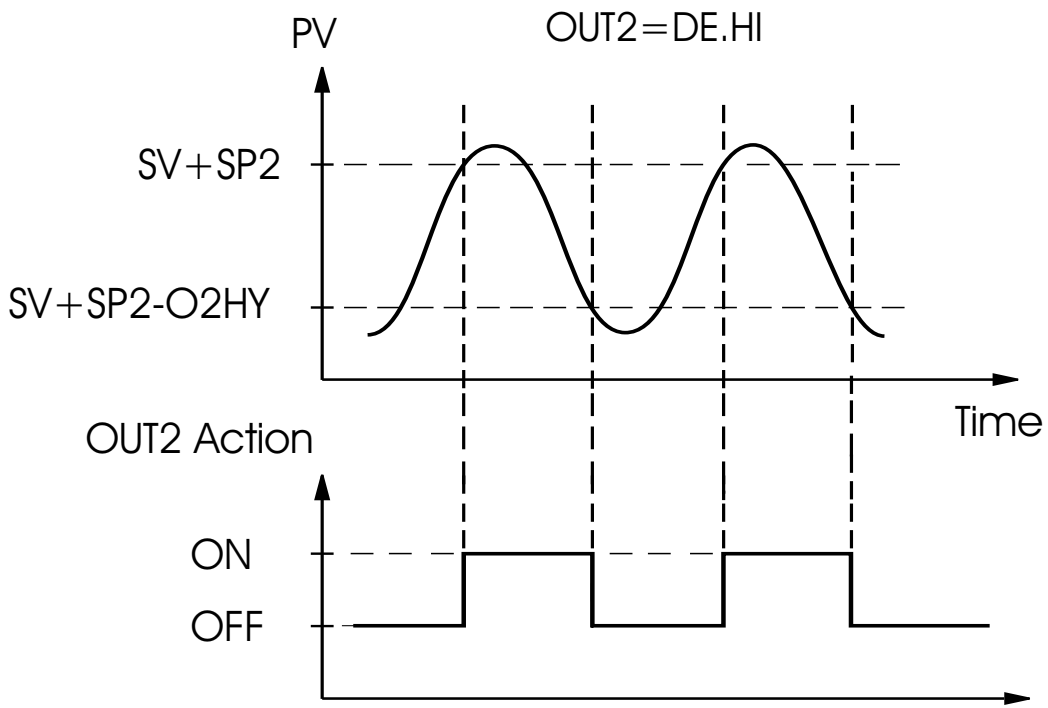
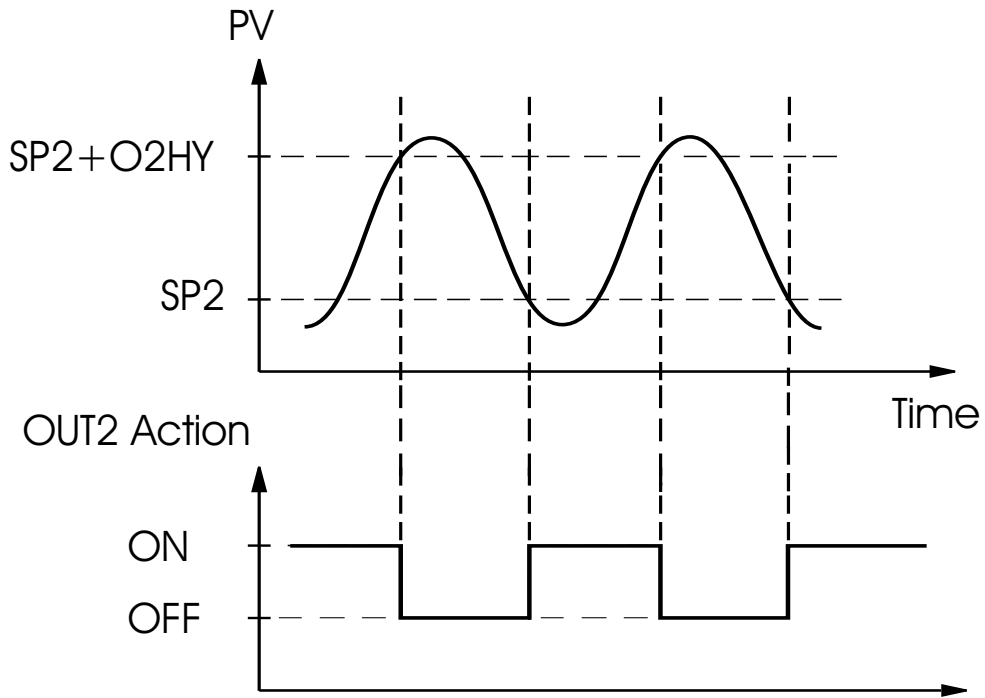

Figure 3.3 Output 2 Deviation High Alarm
Figure 3.4 Output 2 Process Low Alarm
**Output 2 ON-OFF Control ( Alarm function ):** The output 2 can also be configured as alarm function. There are 6 kinds of alarm functions can be selected for output 2, these are: DE.HI (deviation high alarm ), DE.LO (deviation low alarm ), DB.HI (deviation band out of band alarm ), DB.LO (deviation band in band alarm), PV.HI (process high alarm ) and PV.LO ( process low alarm ). Refer to Figure 3.3 and Figure 3.4 for the description of deviation alarm and process alarm with normal alarm mode ( NORM is set for ALMD ).